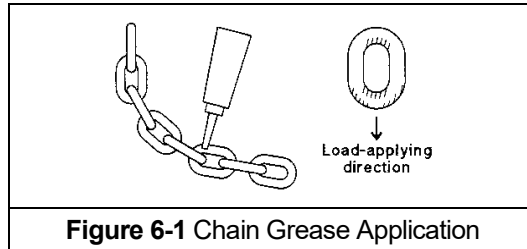

Figure 6-1 Chain Grease Application
- Apply KITO lubricating grease (Part No. ER2CS1951) or an equivalent to industrial general lithium grease, NLGI No. 0, to the bearing surfaces of the load chain links as indicated by the shaded areas in **Figure 6-1**. Also apply the grease to the areas of the load chain (shaded areas in **Figure 6-1**) that contact the load sheave. Ensure that the grease is applied to the contact areas in the load sheave pockets.